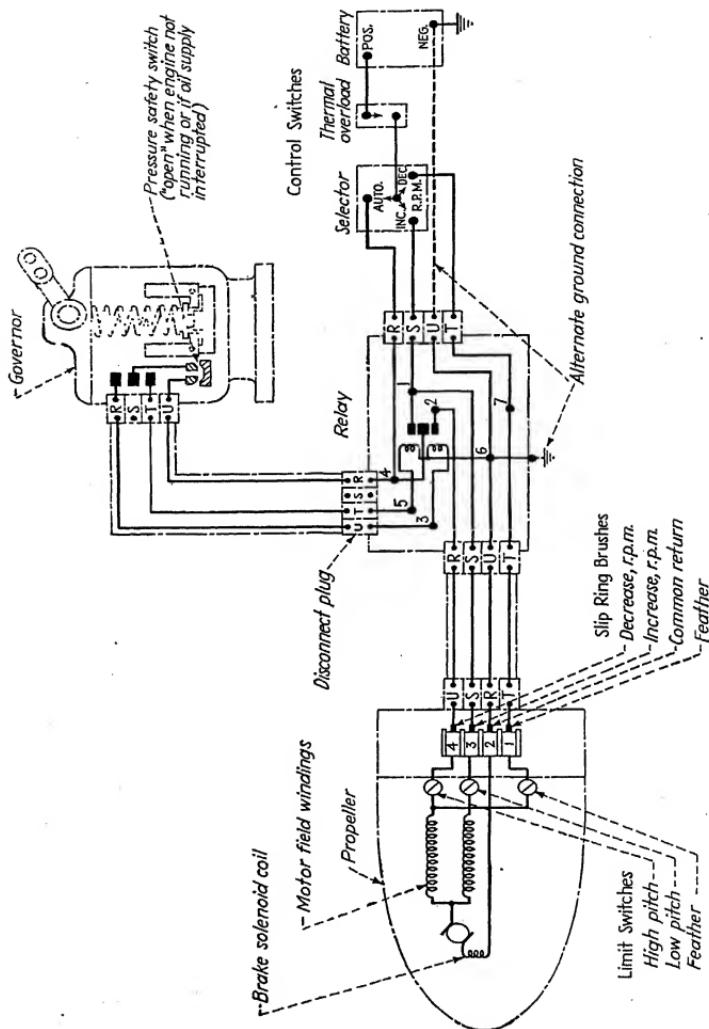

Fig. 75.—Wiring diagram for single-engine installation.
**Wiring and Conduits.**—It is recommended that all propeller wiring be carried in conduits separate from all other airplane wiring. Solid conduits should be used wherever possible, although flexible conduit is normally used from the governor and brush assembly to the relay box in the engine compartment. Figures 75 and 76 show wiring diagrams for both single- and twin-engine planes.